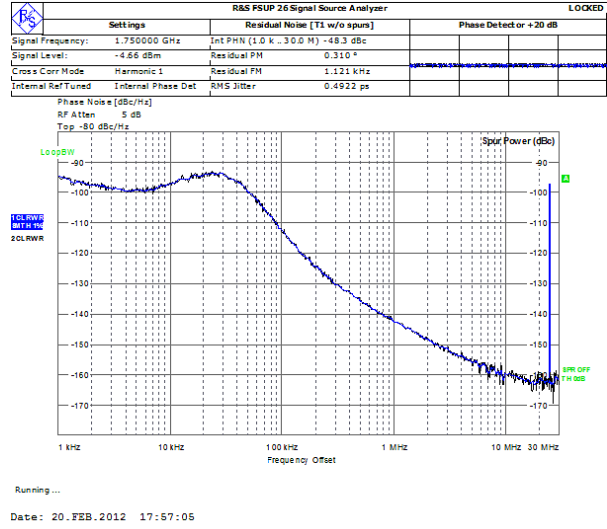

Figure 19. Signal Source Analyzer Display
6. In the software window, set the VCO center frequency (Figure 19 shows a screenshot of the signal source analyzer operating in phase noise mode, taken at a carrier frequency of 1750 MHz). Set the proper PFD frequency to 25 MHz, and program the reference frequency to equal 25 MHz. The charge pump current should equal 2.5 mA. See Figure 20 for the suggested setup.
7. Measure the output spectrum. Figure 19 shows a 1750 MHz output.